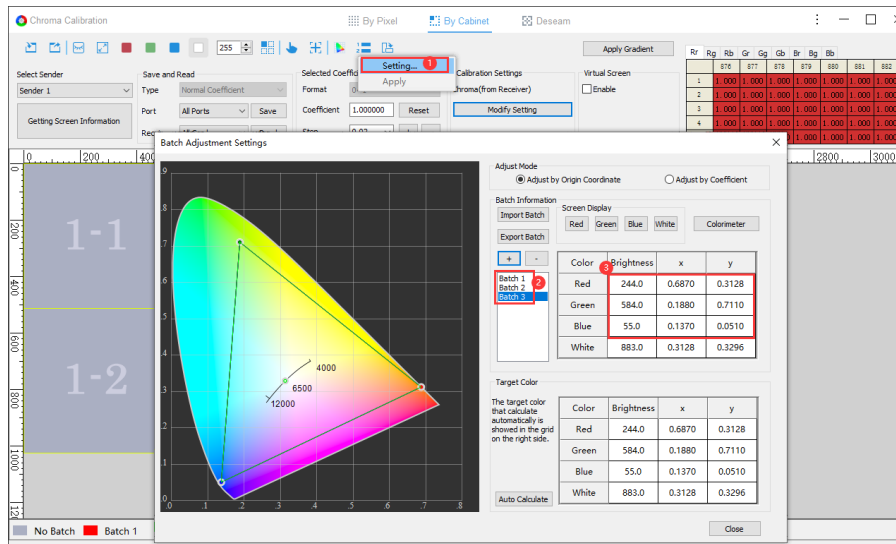

Fig 8.3.6 Set batch information
- Step 1: Click  and select **Settings** to open the **Batch Adjustment Settings** dialog box. Under **Adjust Mode**, choose either **Adjust by Origin Coordinate** or **Adjust by Coefficient**. Add a batch by typing in the table values directly or clicking **Import Batch** under **Batch Information**, as shown in Figure 8.3.6.